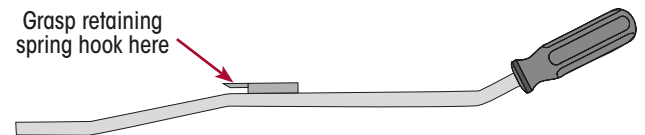
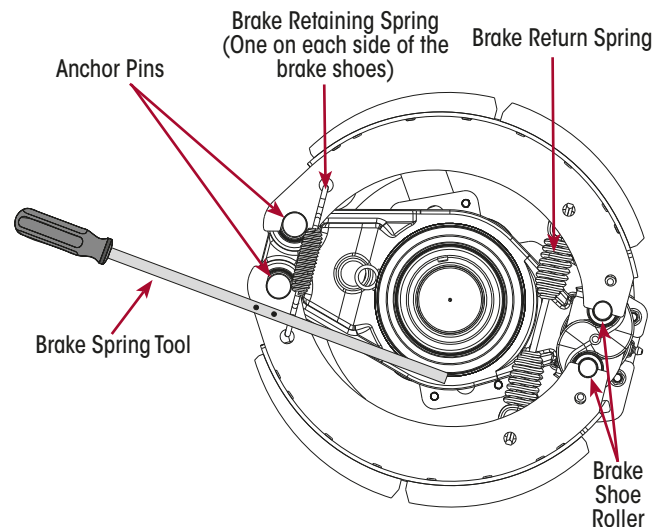

Figure 49: Brake Spring Tool
Figure 50: Removing Brake Retaining Spring
1. While manually supporting the lower brake shoe, use Brake Spring Tool (Figure 49) to unhook both brake retaining springs from the brake shoes. Take care not to damage the hub seal, spindle bearing or sealing surfaces. Refer Figure 50.